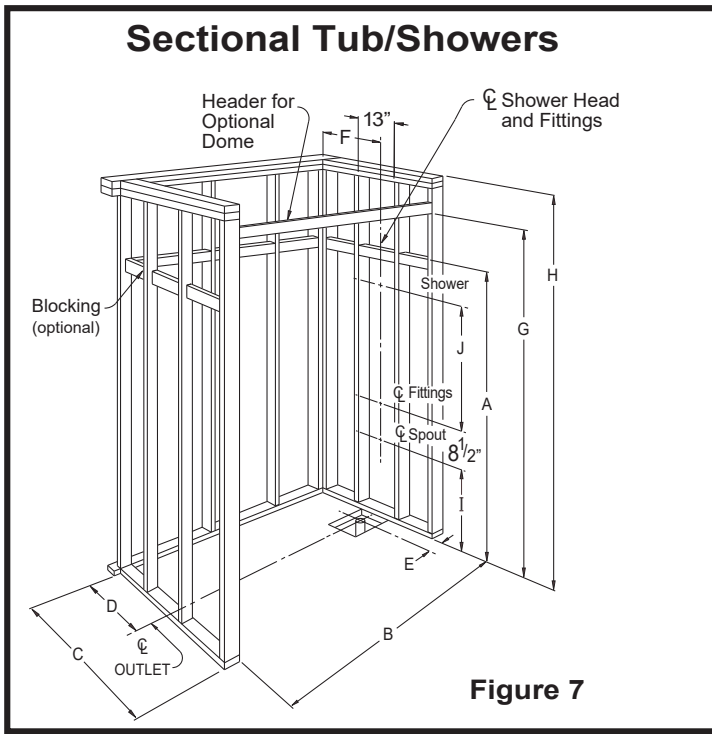

Figure 7
3. Review Figures 7 and 8 to make sure alcove is of proper size. If a fire rated alcove is required, approved finish material must be installed prior to unit installation. Access to drain and supply connections should be provided so that these connections may be made after the unit has been installed. Framing alcove must reflect dimensions on diagrams to permit unit installation. Note in diagrams the required opening in the floor to provide clearance for the drain fitting and connection.